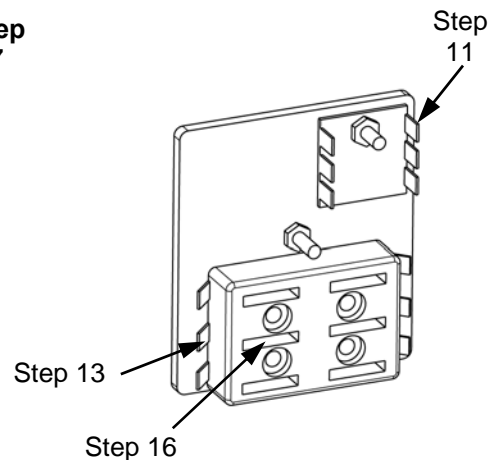

Figure 5
11. Connect **black** wire of harness labeled -12VDC Lights to ground terminal of fuse block (Figure 5).
13. Locate the shorter fuse block to switch wire harness 3-19686 (Item 9). Connect 90 degree connector of wire to empty fuse terminal location, selected in step 9 (Figure 5).
16. Install 7.5 amp fuse into fuse block location selected in Steps 9-13 (Figure 5).